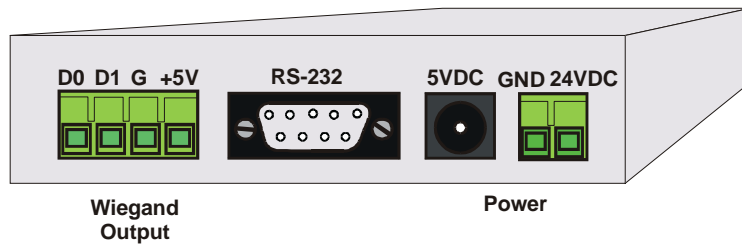

Figure 19 Wiegand Connections
- Step 2:** Run the ground wire from the Ground connection at the Wiegand control panel to **G** on the Receiver (Figure 19). The terminal block on the Receiver can be removed for ease of wiring. For standard Wiegand control panels, the Ground wire is black. Ensure that the termination is secure, but not over-tight.